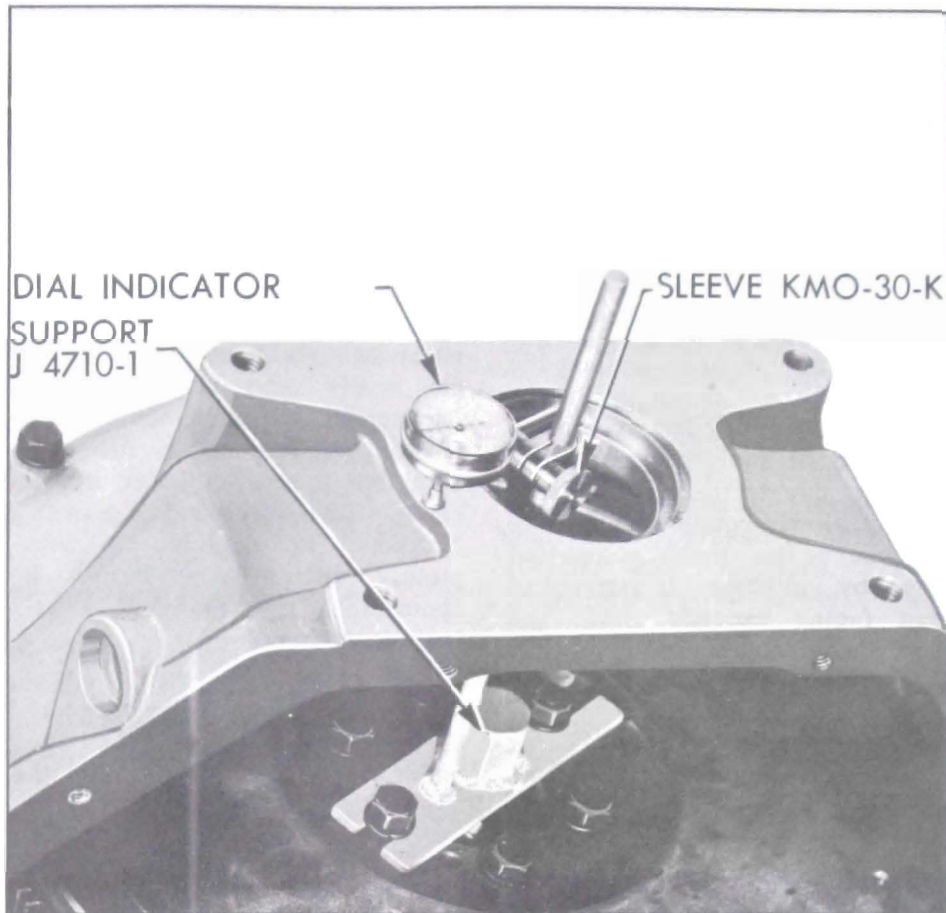

Figure 4-8—Checking Run-Out of Rear Face of Housing
7. Mount dial indicator to bear against rear face of flywheel housing at a radius of 2 1/2", as shown in Figure 4-8.